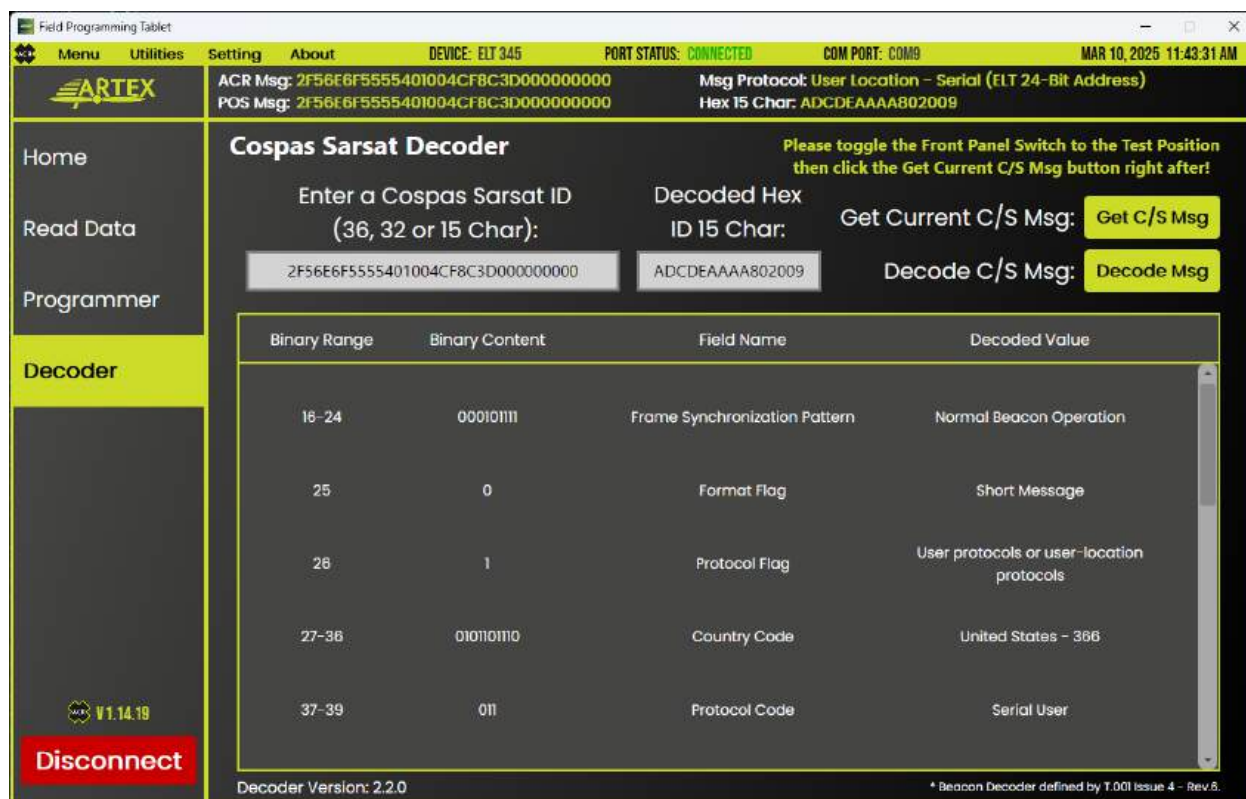

Figure 21 - FPT Decoder Screen
7. The output of the decoder (Figure 21) is in the form of a table with the following columns: